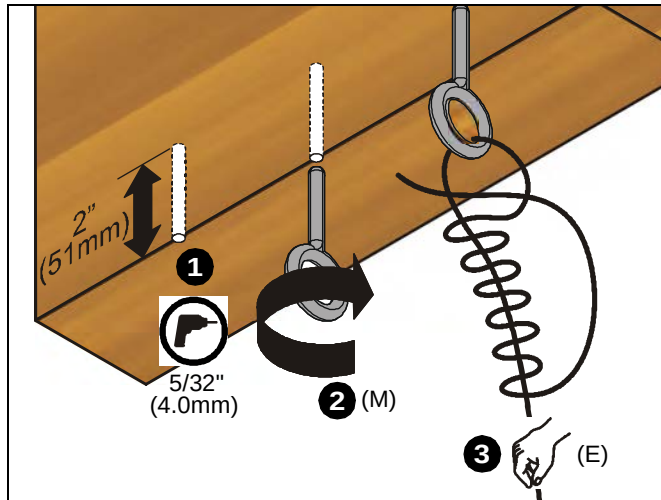

Figure 10
1. Drill 5/32" (4.0mm) diameter x 2" (51mm) deep hole at each marked wire anchor support location. (See Figure 10)
2. Fully thread eye lag (M) into each hole. (See Figure 10)
3. Insert support wire (E) through eye lag (M). Twist wire tightly around itself at least four complete turns, and then thread loose end between eye and first turn. (See Figure 10)